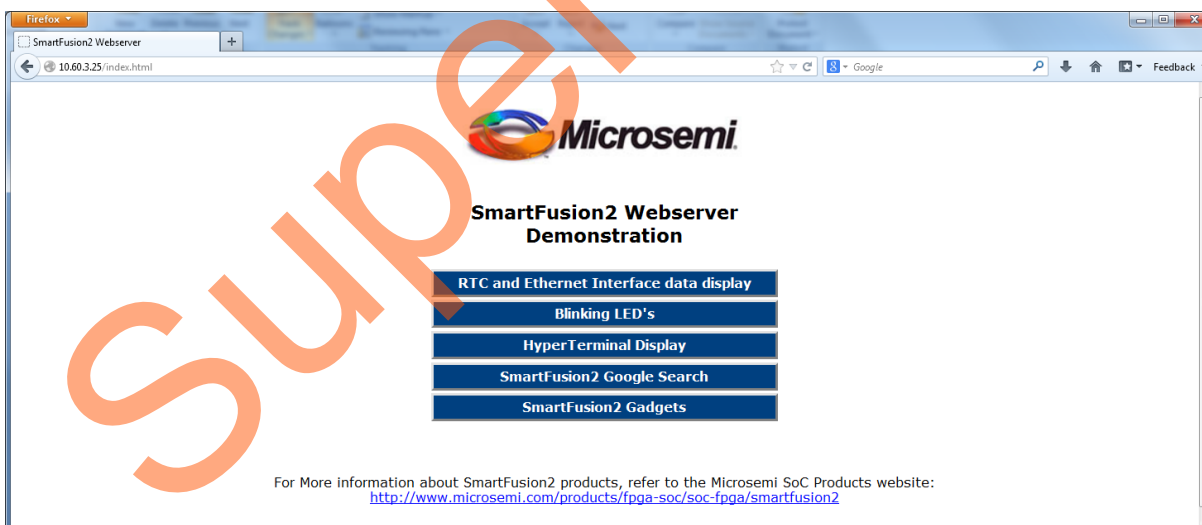

Figure 11 • Main Menu of the Webserver
11. The IP address displayed on the HyperTerminal should be entered in the address bar of the browser (Mozilla Firefox) to run the Webserver. The main menu of the Webserver is shown in Figure 11.